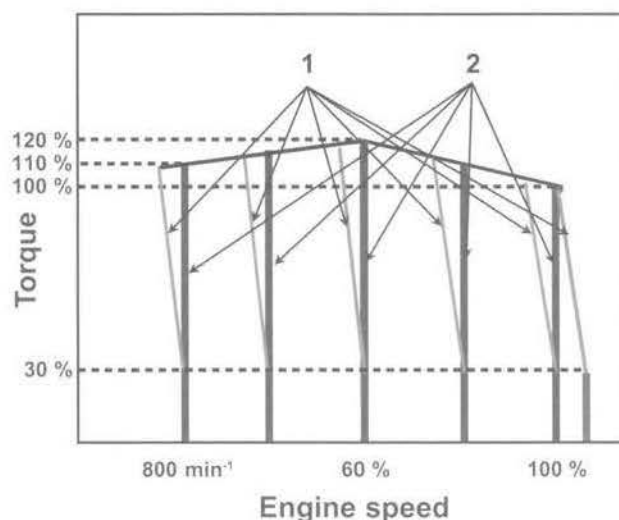

Figure 21
Figure 21 shows typical engine speed curves that outline the relationship between engine speed and load.
The VM series engines for general use are designed so that the engine speed is reduced by a certain percentage from 30 % load to full rated load. See curves (1) in **Figure 21** below. The same percentage droop is maintained at any no-load speed.
The CL series consists of isochronous design engines, the speed of which is kept constant from no load to full rated load. See curves (2) in **Figure 21** below.